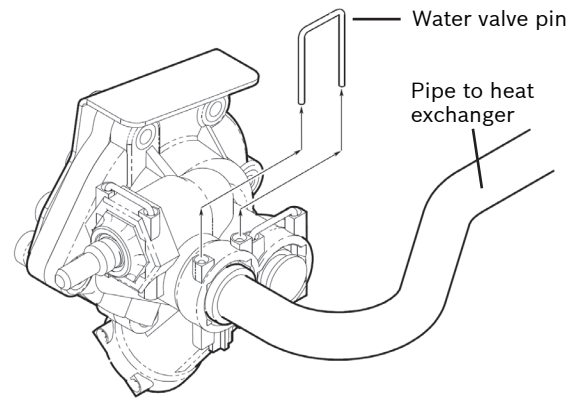

Fig. 8 Water valve pin
3. Using a flat head screw driver remove and save pin from front, right side of water valve. (Fig. 8)
3. Remove and save pin from front, right side of water valve using a flat head screwdriver. (Fig. 8)
2. Check the entire pilot safety circuit (including the safety spillage switch) for loose or dirty connections (See Fig 8). Clean any corrosion evident with a pencil eraser or light sandpaper.